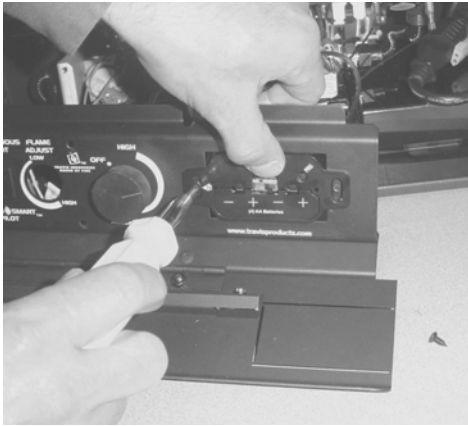
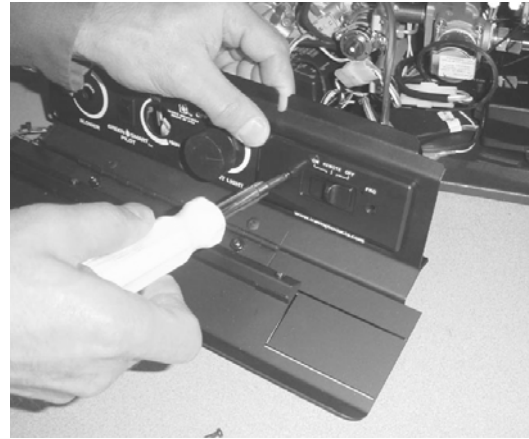

Figure 31
Figure 32
- 20 Attach the receiver to the control panel with the two counter-sunk screws included with the remote kit (see Figure 31). Place the receiver coverplate (and switch) over the receiver and attach with the two screws included with the receiver (see Figure 32)